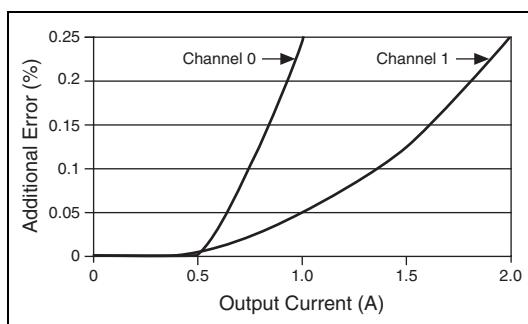

Figure 3. Accuracy Specification Derating versus Load Current
[†] For currents $\geq 500\text{ mA}$, refer to the additional derating information in Figure 3, *Accuracy Specification Derating versus Load Current*.
* For currents $\geq 500\text{ mA}$, refer to the additional derating information in Figure 3, *Accuracy Specification Derating versus Load Current*.
[†] For currents \geq 500 mA, refer to the additional derating information in Figure 3, *Accuracy Specification Derating versus Load Current*.
* For currents \geq 500 mA, refer to the additional derating information in Figure 3, *Accuracy Specification Derating versus Load Current*.